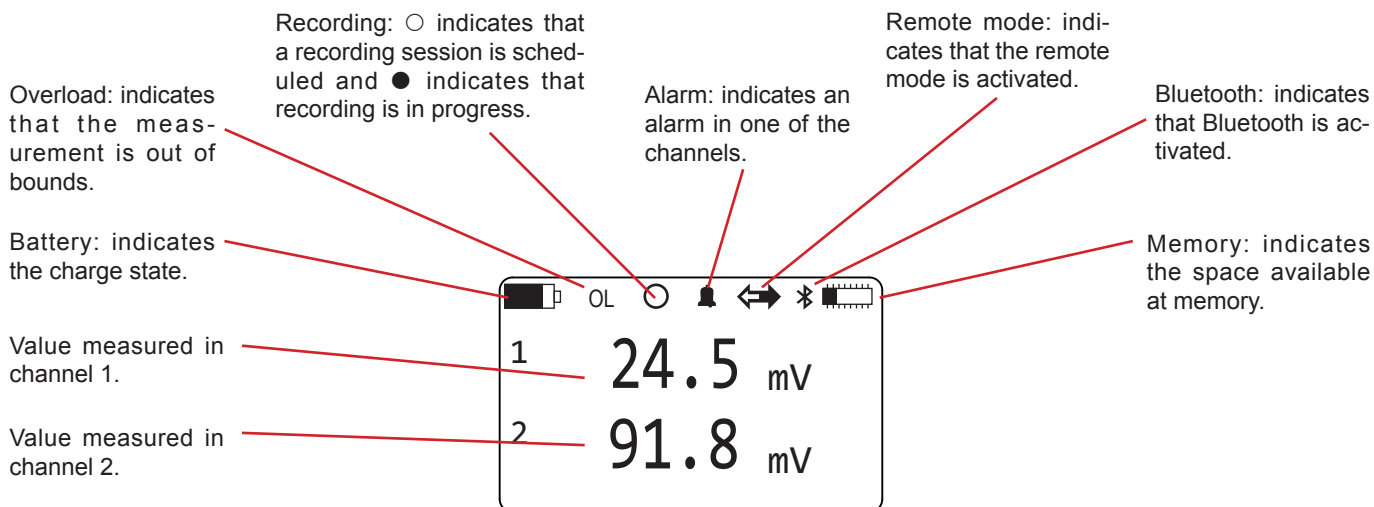

Figure 7
- Switch the instrument on by pressing the On/Off Ⓛ key and keeping it pressed until the display unit indicates **POWER ON**. The **Measurement data** screen (see Figure 7) is displayed.
From the **Measurement data** screen (see Figure 7), press \blacktriangleright twice.